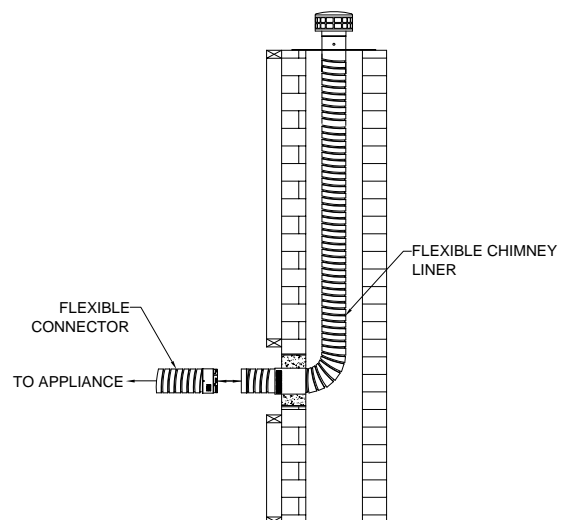

FIG. 1
- a. The inlet of the chimney lining system, (See **FIG. 1**)